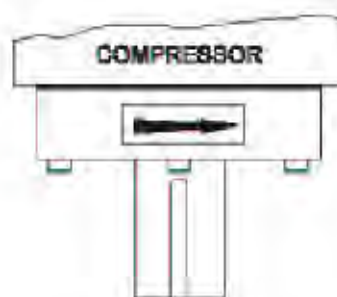

Fig. 6: Shaft rotation
- Shaft rotation clock wise facing compressor, see Fig. 6.
Compressor rotation is clockwise when facing the compressor drive shaft. See Fig. 6. The compressor should never be operated in reverse rotation as bearing damage will result.